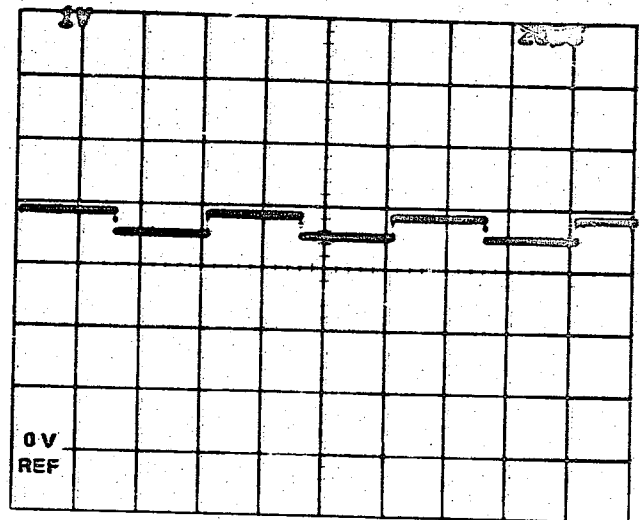

Fig. 6-3. Probe to Pin 6 of U455.
9. Connect the Amplifier 1X probe to Pin 6 of U455 on the Horizontal board and trigger the test oscilloscope for a waveform. This waveform should be similar to that shown in Fig. 6-3.